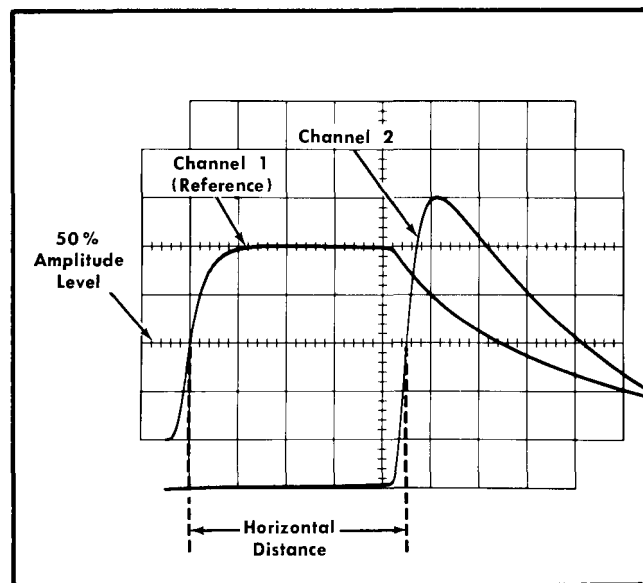

Fig. 2-17. Measuring the time difference between two pulses using a dual-trace unit and a single beam.
11. Measure the horizontal difference between the Channel 1 waveform and the Channel 2 waveform (see Fig. 2-17).
Example: Assume that the TIME/CM switch setting is 50  $\mu$ SEC, the DISPLAY MAG is set to  $\times 10$  and the horizontal difference between waveforms is 4.5 cm (see Fig. 2-17). Using the formula:
Example: Assume the first dial reading is 3.28 and the second dial reading is 7.41 with the A TIME/CM switch set to 2 mSEC (see Fig. 2-17).